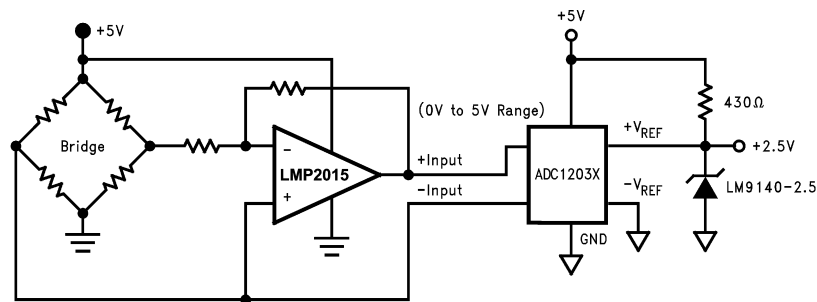

**Figure 37. AC Coupled ADC Driver**
The LMP2015 is a great choice for an amplifier stage immediately before the input of an ADC (Analog-to-Digital Converter) as an ADC driver, whether AC or DC coupled. See Figure 37 and Figure 38. This is because of the following important characteristics:
- E)** Rail-to-Rail output swing maximizes the ADC dynamic range in 5V single supply converter applications. Figure 37 and Figure 38 are typical block diagrams showing the LMP2015 used as an ADC driver.